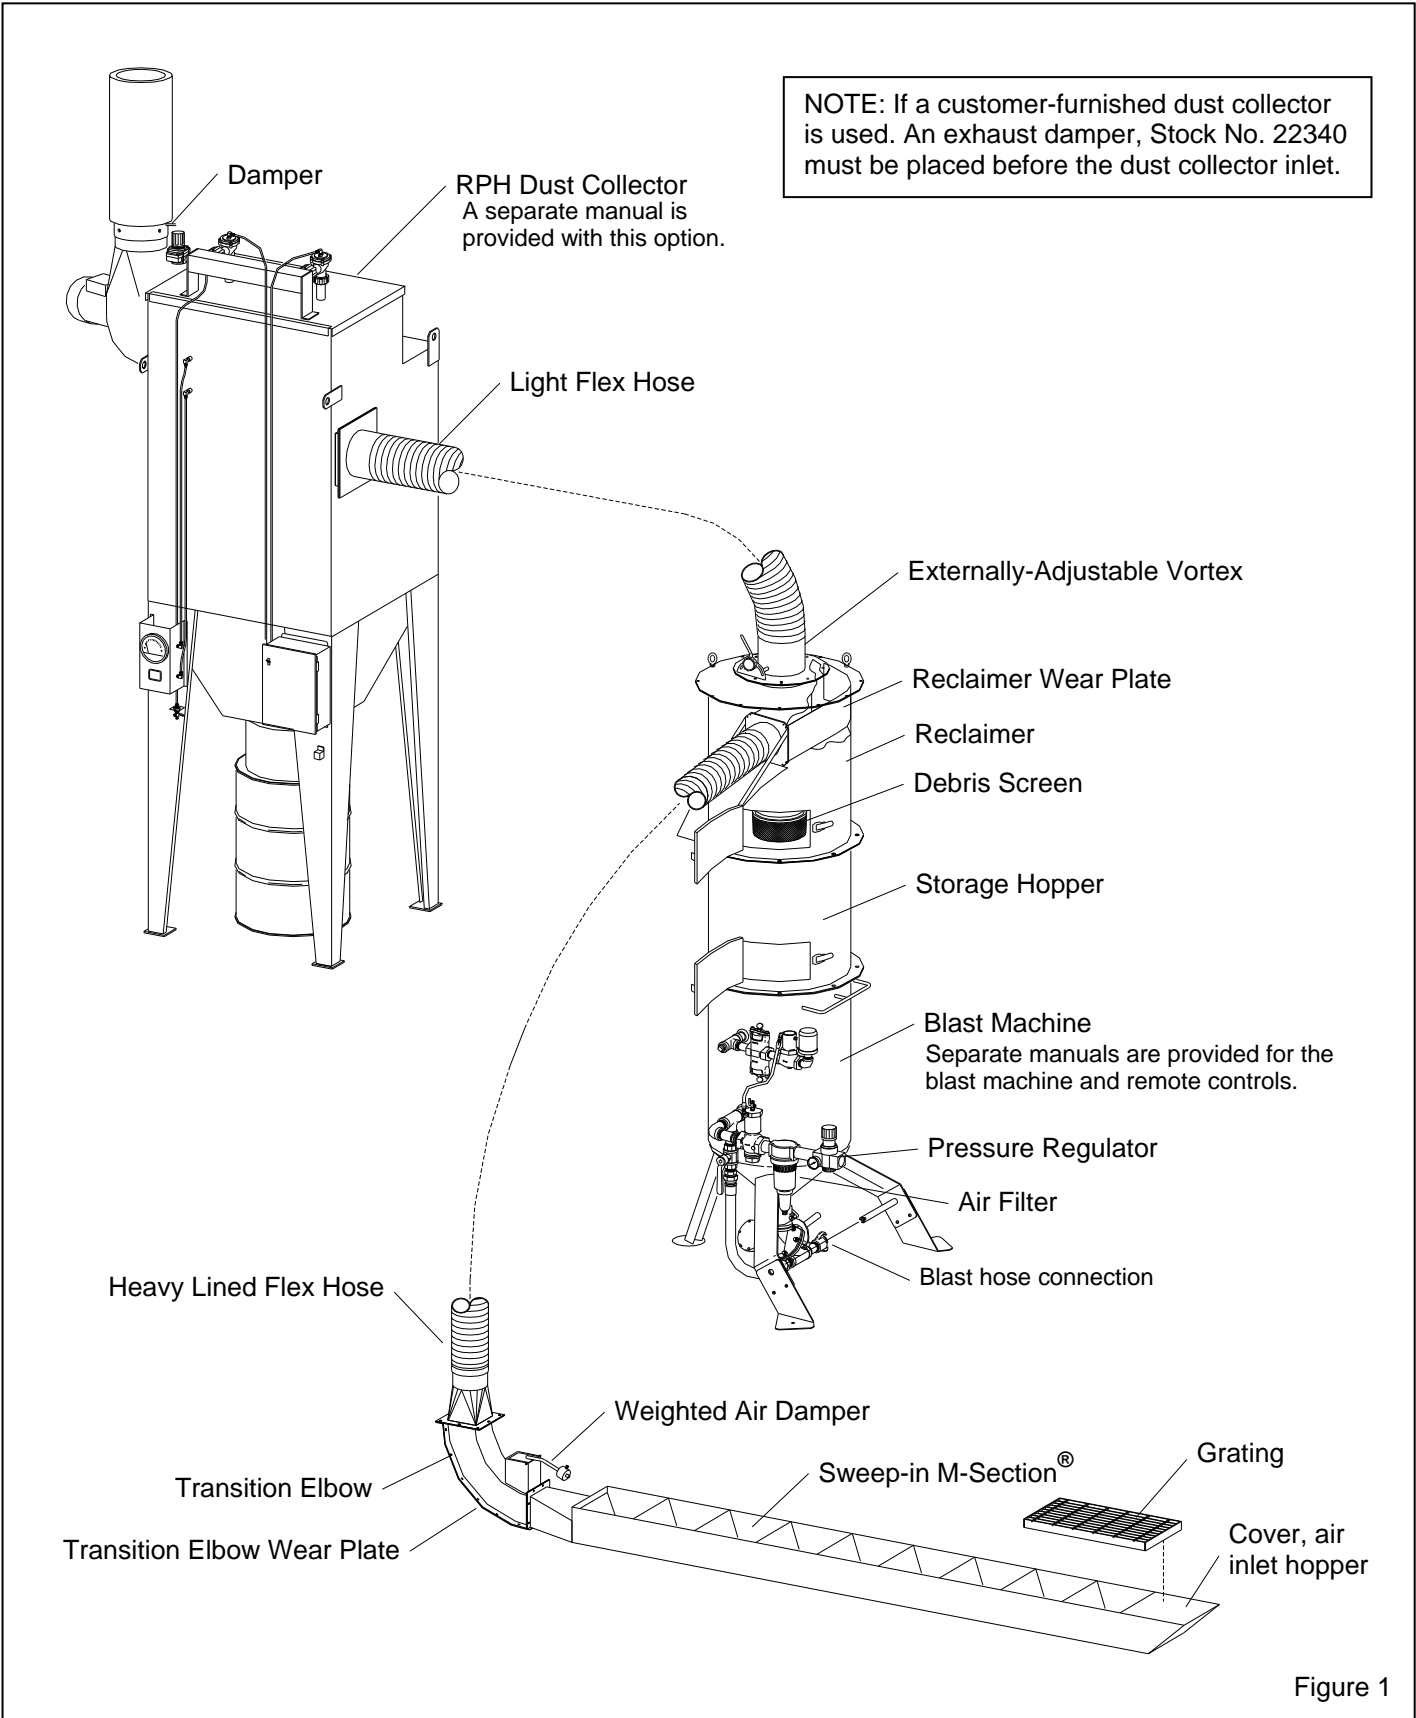
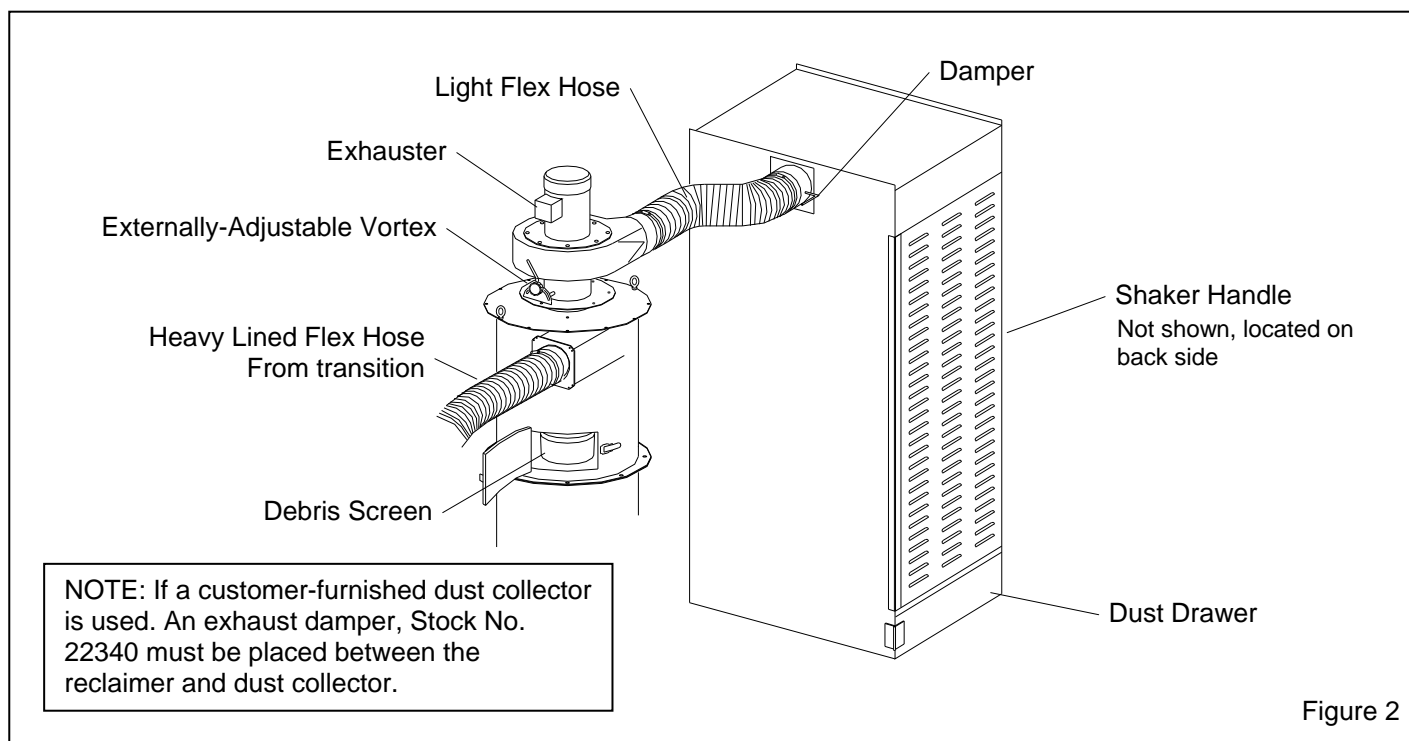

Figure 1
Figure 2
1.3.1 The Sweep-in M-Section® system consists of the pneumatic recovery section with grating and transition elbow, 900 cfm reclaimer, 6 cu. ft. storage hopper, flex hoses, blast machine, and choice of a reverse-pulse dust collector or dry filter. Standard M-Sections® come in 8-foot, 10-foot, and 12-foot lengths. Figure 1 shows the components supplied with standard sweep-in systems with RPH dust collector. Figure 2 shows the reclaimer connected to a dry filter. If the Sweep-in was supplied on a job order (job order equipment), refer to the job order general arrangement drawings for the layout of equipment. Optional operator safety equipment is also available.
4.6.1 Refer to the general assembly drawing in Figures 1 and 2, and connect flex hoses as follows: